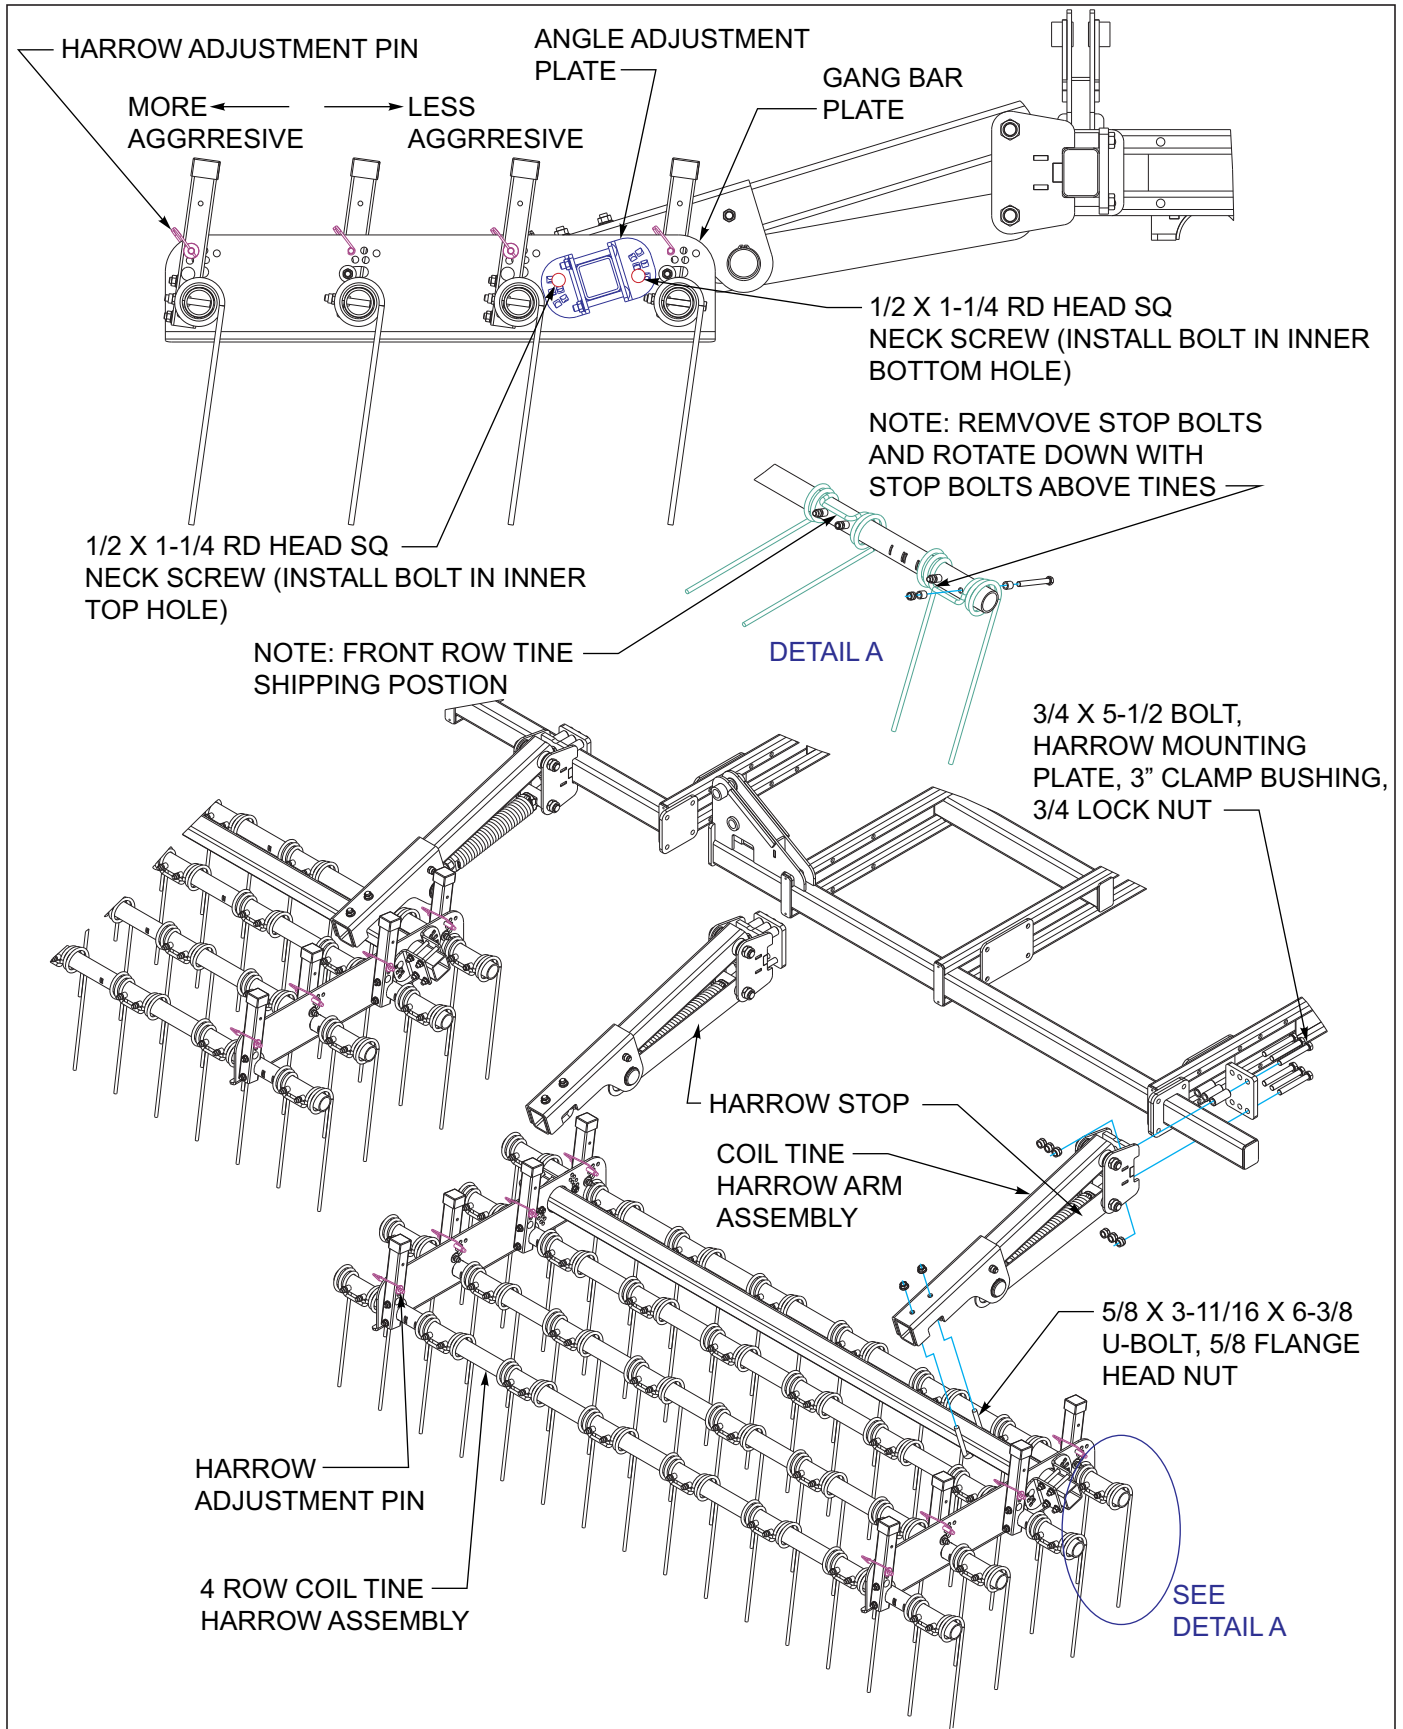

Figure 3-28: 4 Row Coil Tine Harrow Installation
1. Attach coil tine harrow arms to the rear of the field cultivator *See Figure 3-28*, according to placement dimensions. Clamp bushings are installed on the top mounting bolts.
3. Front row tines are assembled with the tines above the stop bolts to prevent damage when shipping *See Figure 3-28* Detail A. Remove front tine bolts and reinstall, with stop bolts above tines.